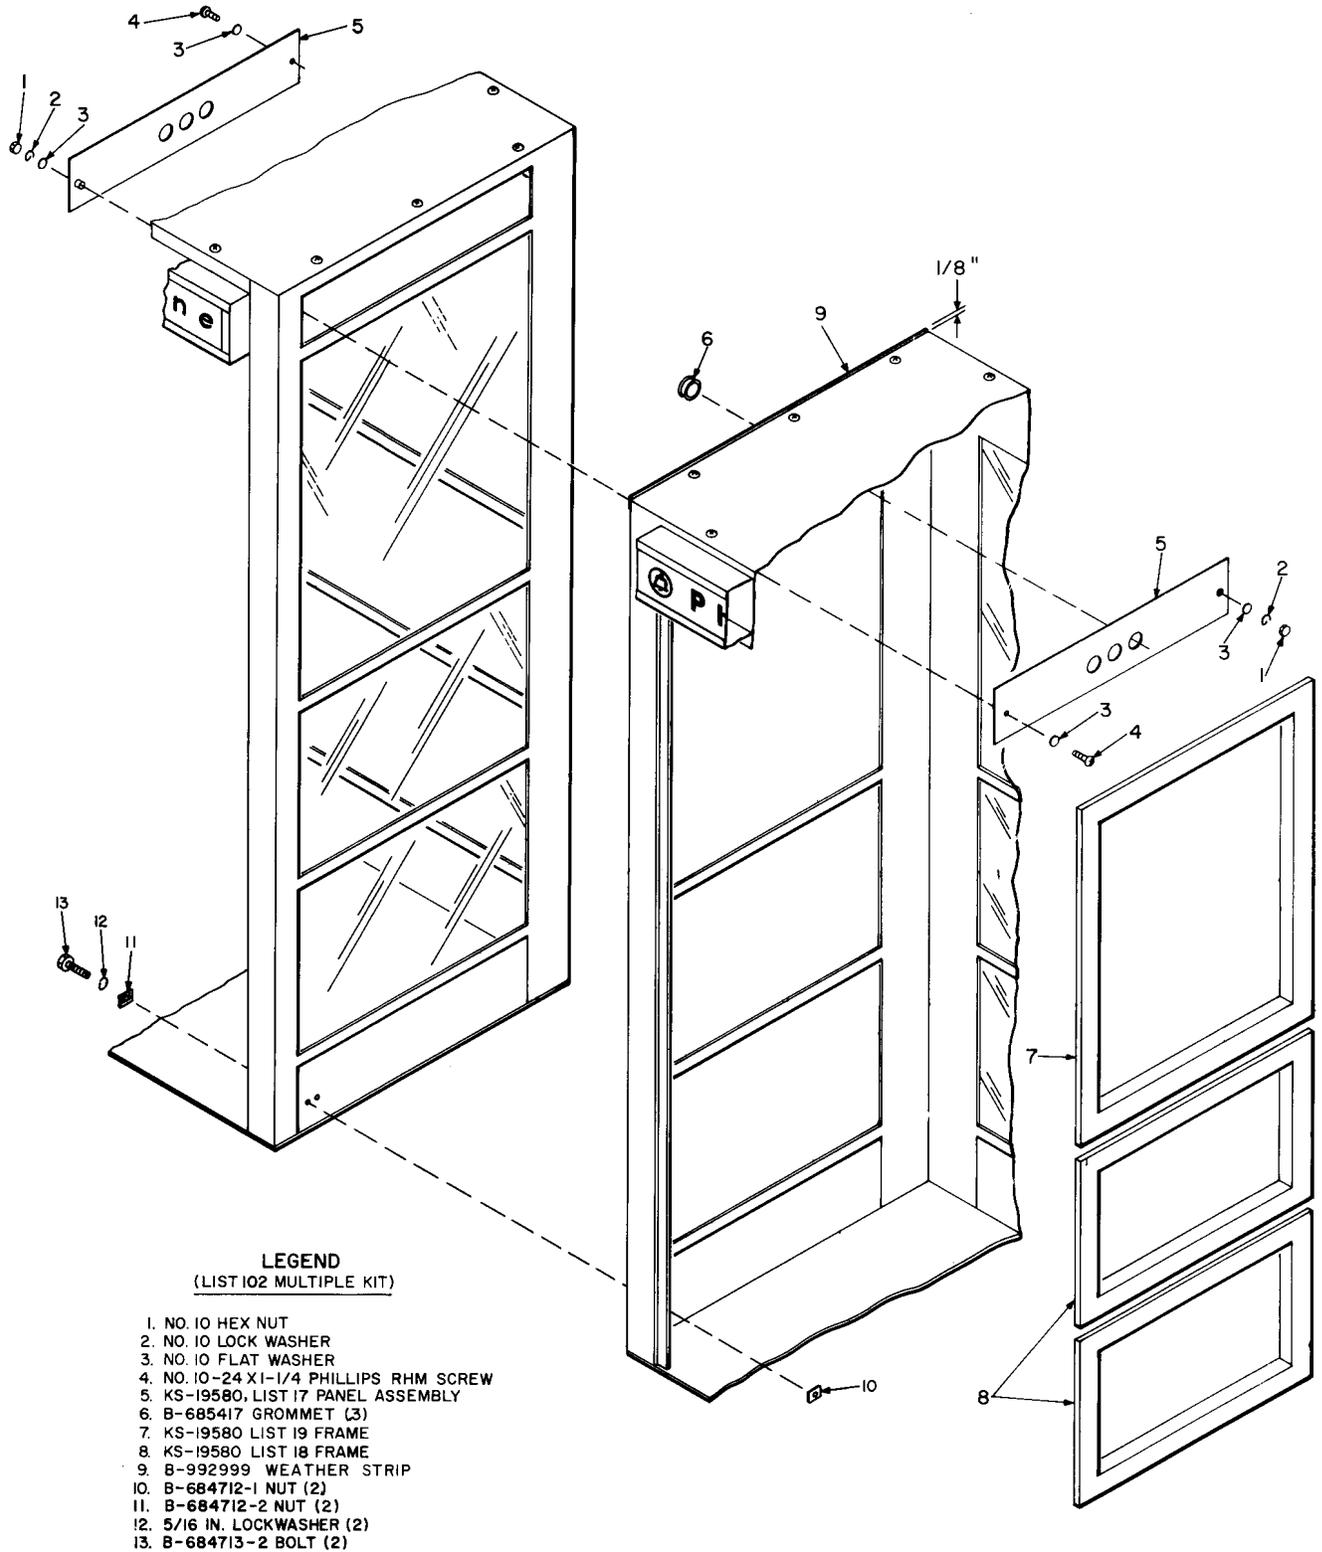

Fig. 10—KS-19580, List 102 Multiple Kit
2.18 Refer to Fig. 10.
- (b) Install adhesive backing weather strip on second booth per Fig. 10.
- (d) Join two booths together using a KS-19580 List 102 multiple kit (Fig. 10).